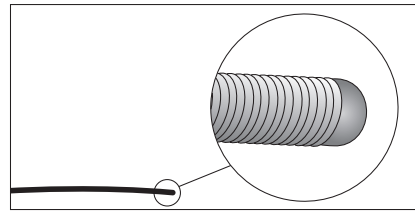

Figure 28
- Examine tip of placement wire after removal to ensure wire has not been altered (refer to Figure 28).